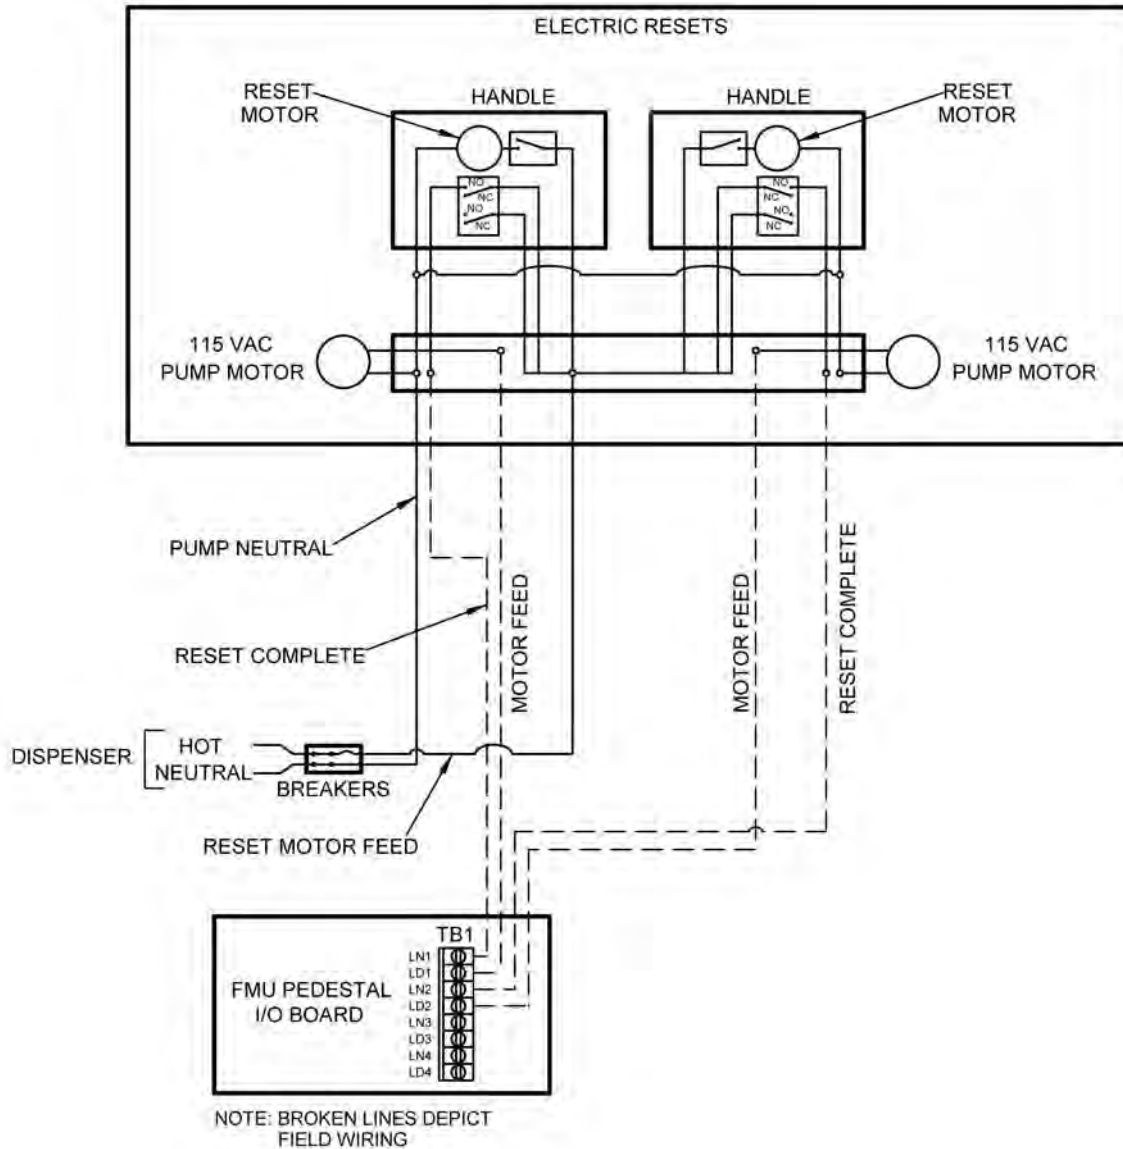

Figure 4-9. Wiring Diagram - Controlling Motors
- b. **Controlling Motors.** See Figure 4-9. When controlling a classic or DoD FMU, and pump handle detection is needed, the control method most likely used will be controlling motors or solenoid valves. If solenoid valves are not present, motors must be controlled. There must be one motor feed per hose. Motor control interrupts power from the dispenser reset mechanism to a suction pump motor or contact starter for a submersible pump motor. Siphoning from aboveground tanks is possible if solenoid valves or anti-siphon valves are not present. Pump handle detection is possible from all variations of FMUs.